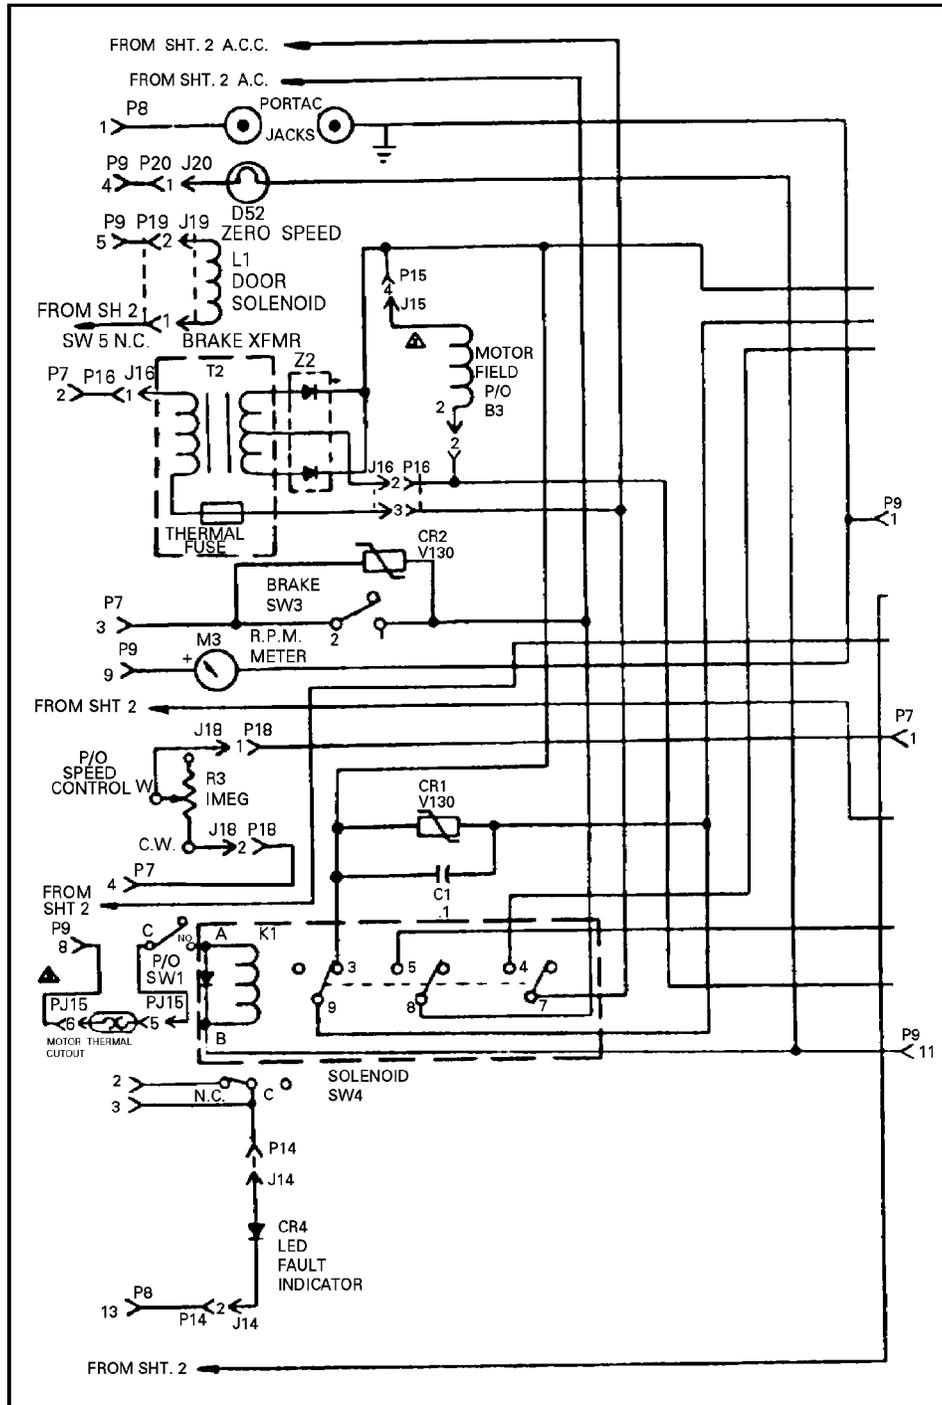

Figure 3-38
- c. Connect a portable tachometer onto the PORTAC JACKS. (See Figure 3-38.)